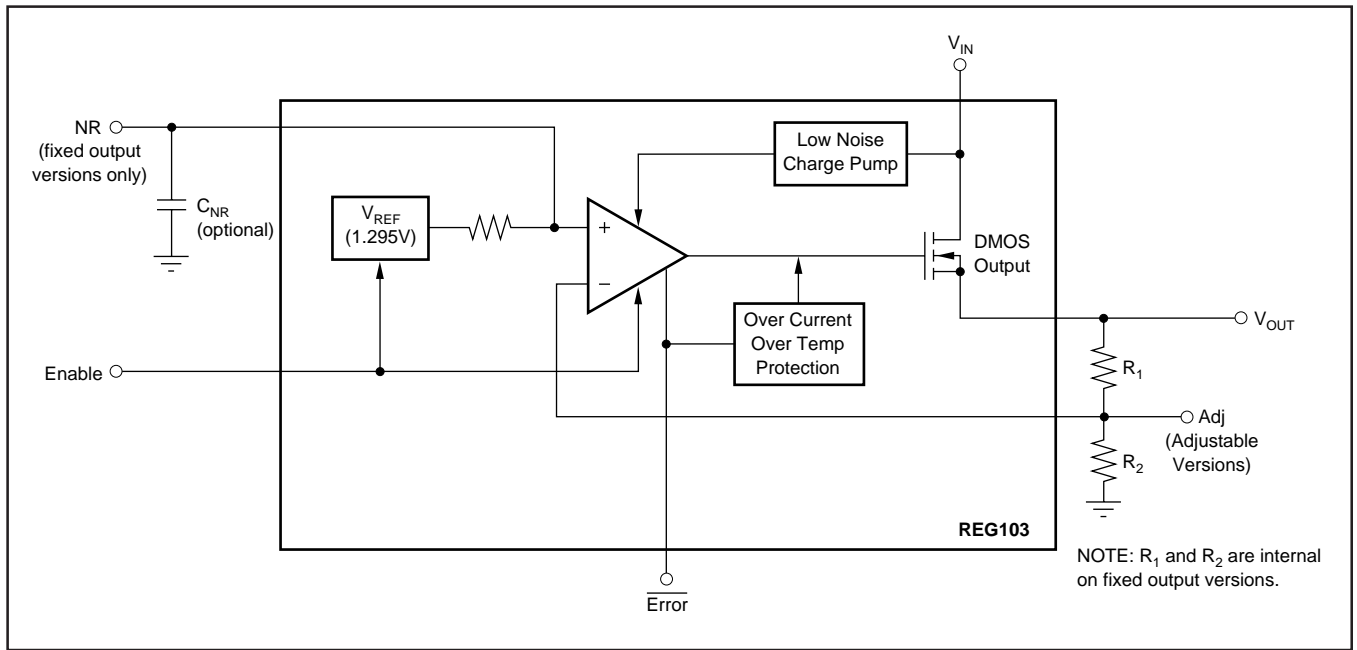
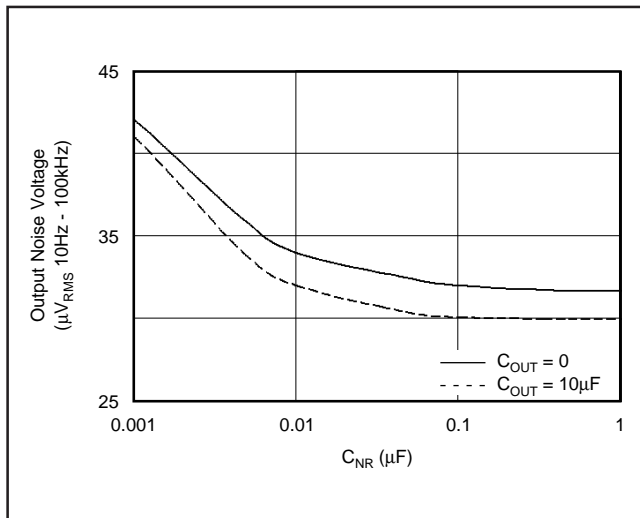

FIGURE 7. Block Diagram.
FIGURE 8. Output Noise versus Noise Reduction Capacitor.
Connecting a capacitor,  $C_{NR}$ , from the Noise Reduction (NR) pin to ground, can reduce the output noise voltage. Adding  $C_{NR}$  (see Figure 7) forms a low-pass filter for the voltage reference. For  $C_{NR} = 10\text{nF}$ , the total noise in the 10Hz to 100kHz bandwidth is reduced by approximately a factor of 3.5. This noise reduction effect is shown in Figure 8.